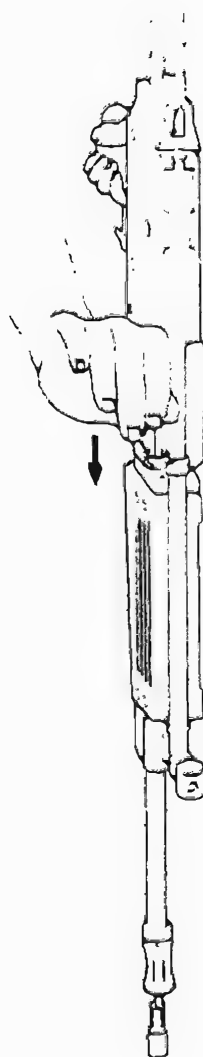

FIG. B.1.7
9. A barrel is unserviceable if the bore gauge of $\varnothing 5,687$ mm passes through the barrel bore. See Fig. B.1.7.